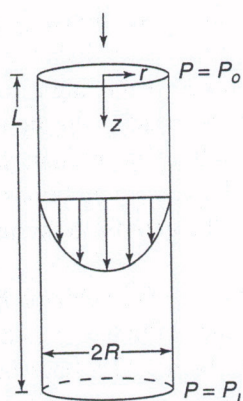

Figure 6.20
30. What are the velocity boundary conditions in the flow shown in Figure 6.20? Express your answer in the coordinate system shown.